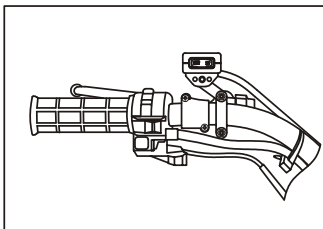

Figure 3: Handlebar mount assembly. Exact positioning may vary depending on ATV make and model.
- It is recommended that the switch be installed on the left handlebar. A piece of electrical tape around the handlebar will help prevent rotation of mount on the handle bar. (See Figures 3 & 4)